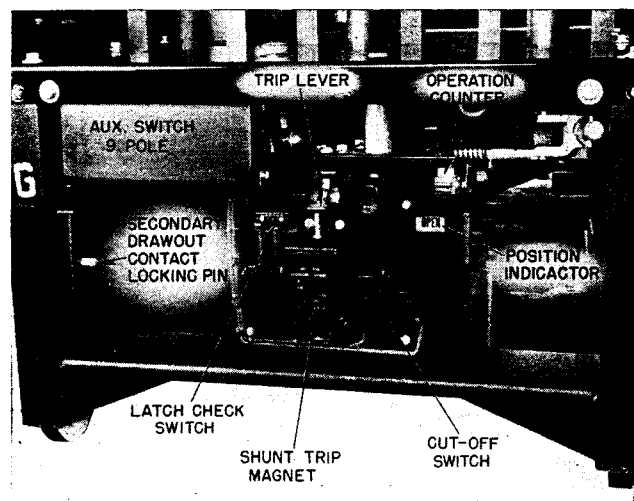
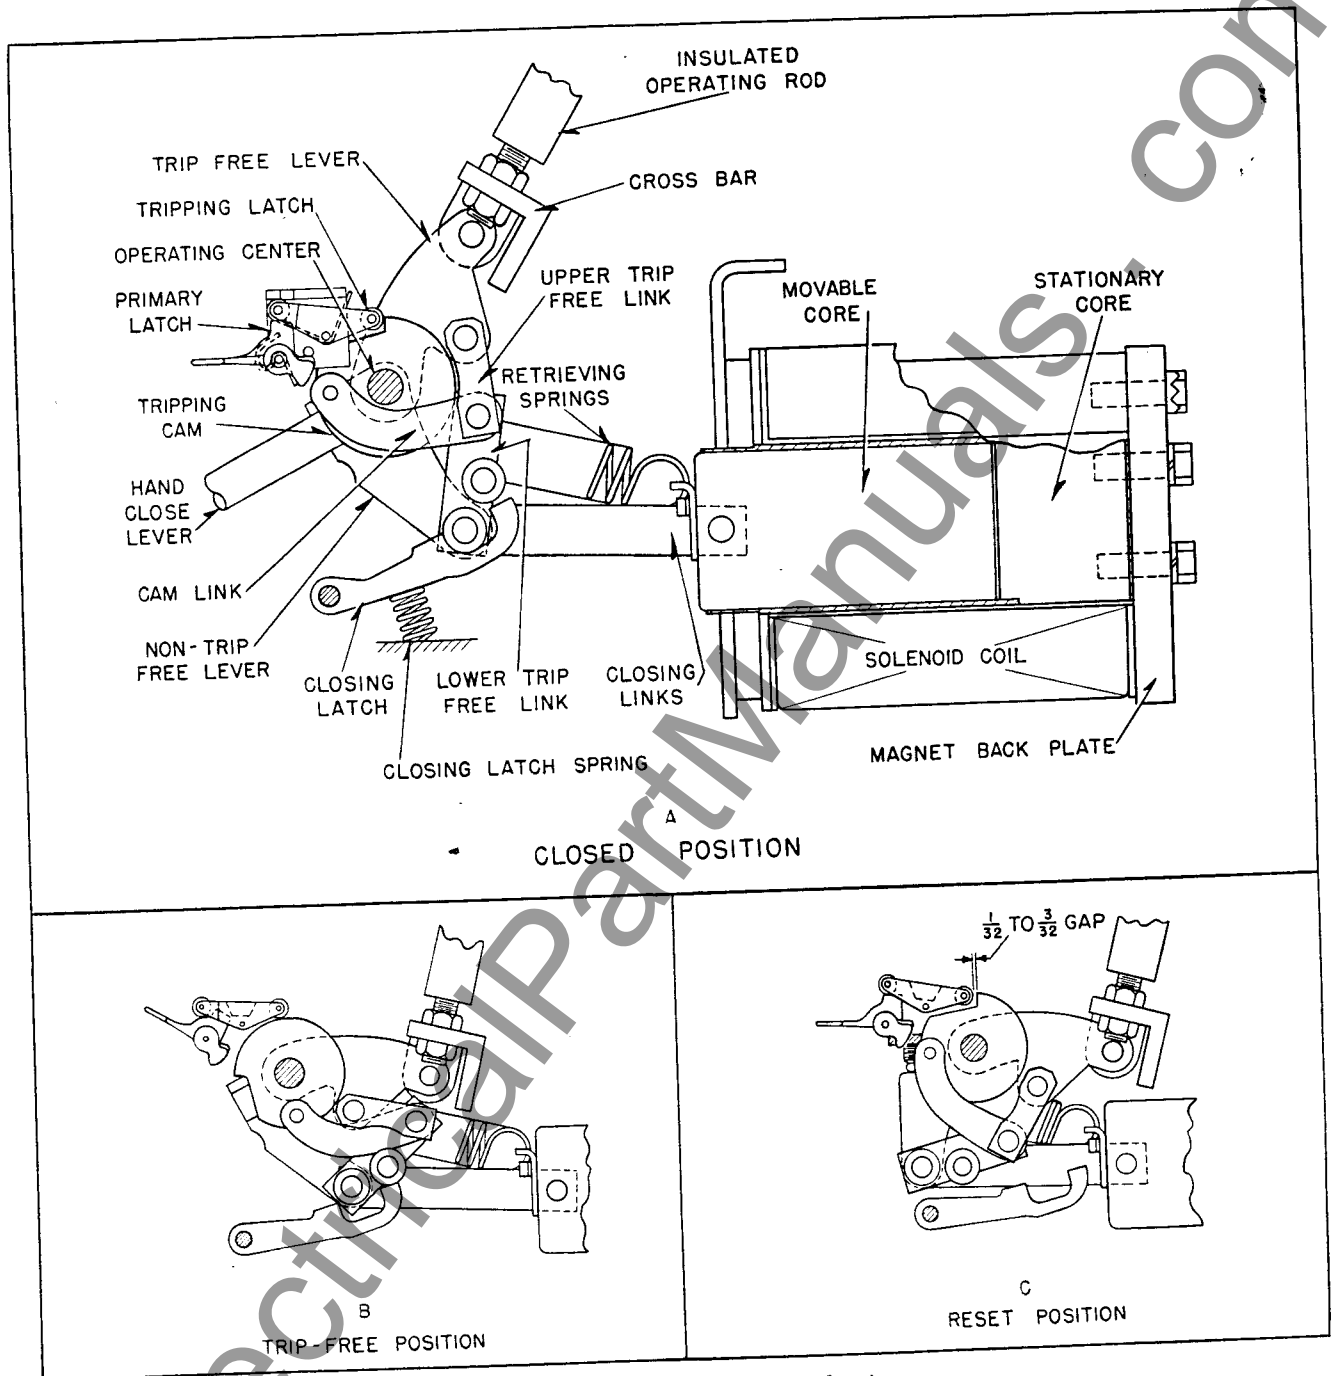

FIG. 3. Mechanism Panel
FIG. 4. Solenoid Operating Mechanism
The solenoid operating mechanism with its trip-free linkage is shown in Fig. 4. In this mechanism the horizontal pull of the solenoid coil is transmitted to the contact operating rods through a system of links which rotates counter-clockwise about the operating center. The linkage system consists of four major links: the non-trip free lever, trip free lever, upper trip free link, and lower trip free link. These members are arranged as shown and are held to form a rigid member by the cam link and tripping cam. The tripping cam is held fixed by the tripping latch.
link, the major linkage collapses under the force of the contact springs and the accelerating springs which are located in an air bumper attached to the trip free lever. The junction of the upper and lower trip free links moves to the right and the trip free lever rotates clockwise, thus opening the breaker. The position of the linkage is then that shown in Figure 4-B.
In moving to this position the roller on the lower trip free link has disengaged the closing latch. The retrieving springs now move the solenoid core which moves the linkage to the reset position as shown in Figure 4-C. In this position the tripping latch is reset and the breaker may be reclosed.
The mechanism panel is mounted on the front of the closing solenoid mechanism as shown in Fig. 3. On it are mounted the following auxiliary devices included as standard on all breakers:
**Latch Check Switch.** When a breaker is to be automatically reclosed after being tripped free, it is necessary to arrange the electrical control scheme so that the closing solenoid will not be energized to start the closing motion until the mechanism has completed the linkage motions to get to the reset position. See "B" and "C" of Fig. 4. For this purpose, a switch is arranged to be closed when the primary latch or trigger handle moves to the reset position because the trigger is the last part to move in the sequence of linkage motions required to reset the mechanism. To keep necessary tripping force small, the resetting spring torque used on the trigger is small. Therefore, the latch check switch is a small, light force, snap action switch. See Fig. 3.
**Tripping Latch.** If a breaker fails to close contacts although the moving core of the mechanism moves to the closed position, a probable cause is failure to reset. Refer to "C", Fig. 4. The gap indicated between tripping latch roller and cam is an essential requirement to permit tripping latch roller to fall into cam notch. Watch trigger handle (with words "lift to trip"). It should return to horizontal position, immediately after breaker has opened.
This test position occurs at the outer limit of breaker travel obtained by operation of the levering-in device crank. If it is desired to connect the control circuits when the breaker has been cranked to this position, pull out the secondary contact locking pin shown in Fig. 4. While holding this pin out, push the secondary contact bracket toward the rear of the breaker until the secondary contacts engage fully. The main barriers may be removed and the breaker operated safely in this position since the main contacts are disconnected.